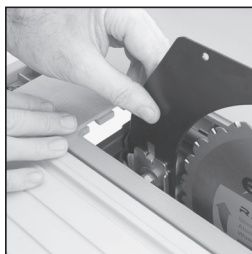

FIG. 3
- Slide the Riving Knife (it is slotted for convenience) between the fixing plate and mounting block. (Fig. 3) Ensure that the mounting blocks projecting lugs engage with the slot in the Riving Knife.